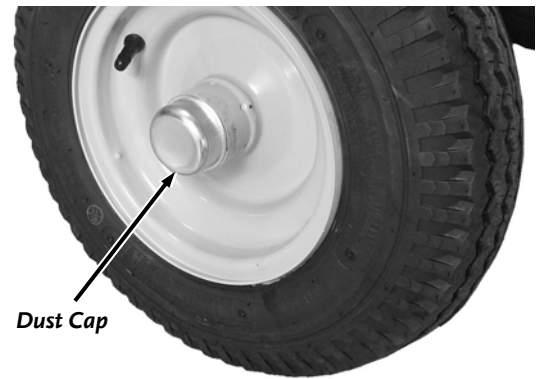

Figure 40
2. Remove the Dust Cap from the Wheel Assembly with Channel Lock Pliers (**Figure 40**).